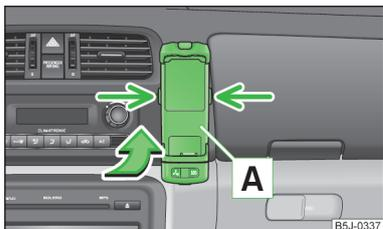

Fig. 99
- › First push adapter **A** in the direction of the arrow » Fig. 99 into the mount as far as the stop. Then press the adapter slightly downwards, until it locks securely into position.
- › Press the side locks on the mount » Fig. 99 at the same time and remove the adapter with the mobile phone.